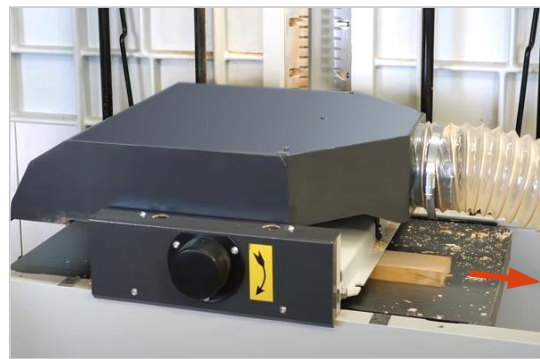

Figure 41: Thickness planing
- Now activate the feed. To do this, you must move the switch lever (20) downwards.
- Switch on the main switch (9).
- Start the cutter block via the green push button (B).
- Place the workpiece with the already surface planed side on the thickening table (21) and push it manually up to the infeed roller (32) → The workpiece is automatically transported to the cutter block, machined and can then be removed on the outfeed side (see ⇒ Figure 41).